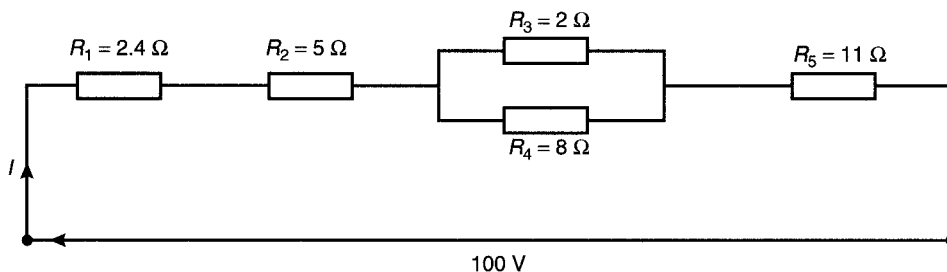

Figure A2.1
- Resistances of $5\ \Omega$, $7\ \Omega$, and $8\ \Omega$ are connected in series. If a $10\ \text{V}$ supply voltage is connected across the arrangement determine the current flowing through and the p.d. across the $7\ \Omega$ resistor. Calculate also the power dissipated in the $8\ \Omega$ resistor. (6)
- For the series-parallel network shown in Fig. A2.1, find (a) the supply current, (b) the current flowing through each resistor, (c) the p.d. across each resistor, (d) the total power dissipated in the circuit, (e) the cost of energy if the circuit is connected for 80 hours. Assume electrical energy costs 7.2p per unit. (15)
- The charge on the plates of a capacitor is $8\ \text{mC}$ when the potential between them is $4\ \text{kV}$. Determine the capacitance of the capacitor. (2)
- Two parallel rectangular plates measuring $80\ \text{mm}$ by $120\ \text{mm}$ are separated by $4\ \text{mm}$ of mica and carry an electric charge of $0.48\ \mu\text{C}$. The voltage between the plates is $500\ \text{V}$. Calculate (a) the electric flux density (b) the electric field strength, and (c) the capacitance of the capacitor, in picofarads, if the relative permittivity of mica is 5. (7)
- A $4\ \mu\text{F}$ capacitor is connected in parallel with a $6\ \mu\text{F}$ capacitor. This arrangement is then connected in series with a $10\ \mu\text{F}$ capacitor. A supply p.d. of $250\ \text{V}$ is connected across the circuit. Find (a) the equivalent capacitance of the circuit, (b) the voltage across the $10\ \mu\text{F}$ capacitor, and (c) the charge on each capacitor. (7)
- A coil of 600 turns is wound uniformly on a ring of non-magnetic material. The ring has a uniform cross-sectional area of $200\ \text{mm}^2$ and a mean circumference of $500\ \text{mm}$. If the current in the coil is $4\ \text{A}$, determine (a) the magnetic field strength, (b) the flux density, and (c) the total magnetic flux in the ring. (5)
- A mild steel ring of cross-sectional area $4\ \text{cm}^2$ has a radial air-gap of $3\ \text{mm}$ cut into it. If the mean length of the mild steel path is $300\ \text{mm}$, calculate the magnetomotive force to produce a flux of $0.48\ \text{mWb}$. (Use the B–H curve on page 71) (8)